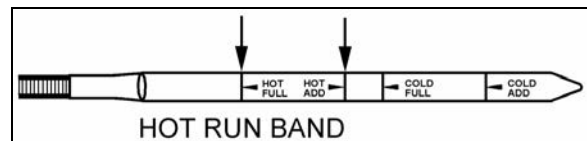

FIGURE 5: HOT CHECK
- Park the vehicle on a level surface and shift to Neutral (N). Apply the parking brake and allow the engine to idle (500 - 800 rpm).
- If the level is **not** within this band, add or drain fluid as necessary to bring the level within the HOT RUN band. (Fig. 5).